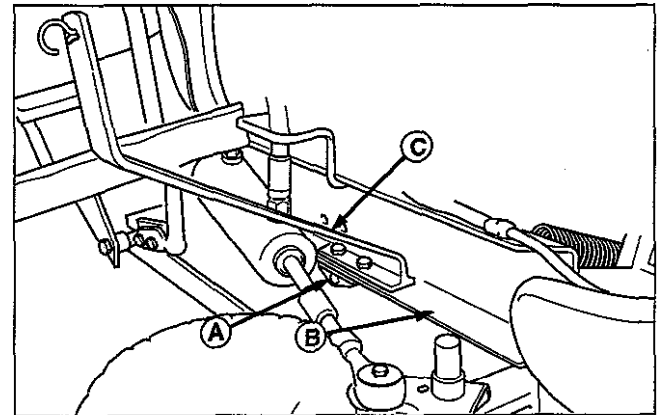

figure 2
1. See figure 2. Attach the right front hitch mounting bracket (A) and angling rod support arm (C) to the frame (B) using 5/16-18 x 1-1/4 in. bolts, lock washers, and nuts.